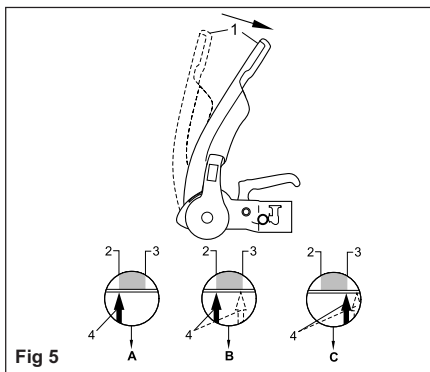

Fig 5
- Open Stabiliser lever (Fig. 5/Item1).
- 4) If the arrow on the arm (Fig. 5/Item 4) is before or on the marked area (Fig. 5/Item 2) the friction pads are still as new (See A)